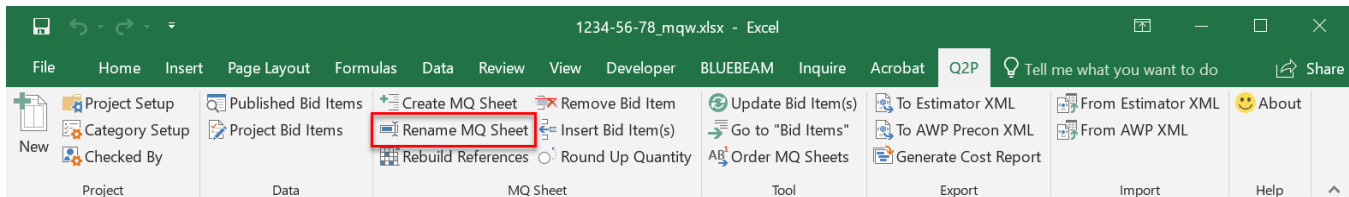

Figure 8.7 “Rename MQ Sheet” command.
1. From the *MQ Sheet* section of the Q2P ribbon, select **Q2P > MQ Sheet > Rename MQ Sheet** (Figure 8.7).